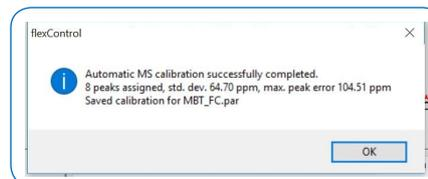

Figure 4.13 Calibration result window
- After calibration a new window will open with the calibration result (see Figure 4.13)